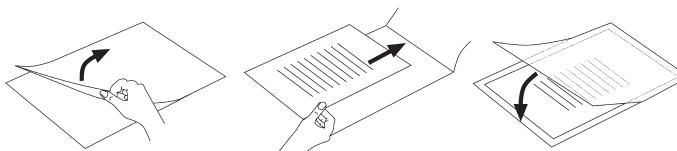

Fig. 2
- Ensure that you use only one pouch for laminating. First open it up, as shown in Fig. 2.
- Make certain that you use only one pouch for laminating. First open it up, as shown in Fig. 2 (see p. 8).